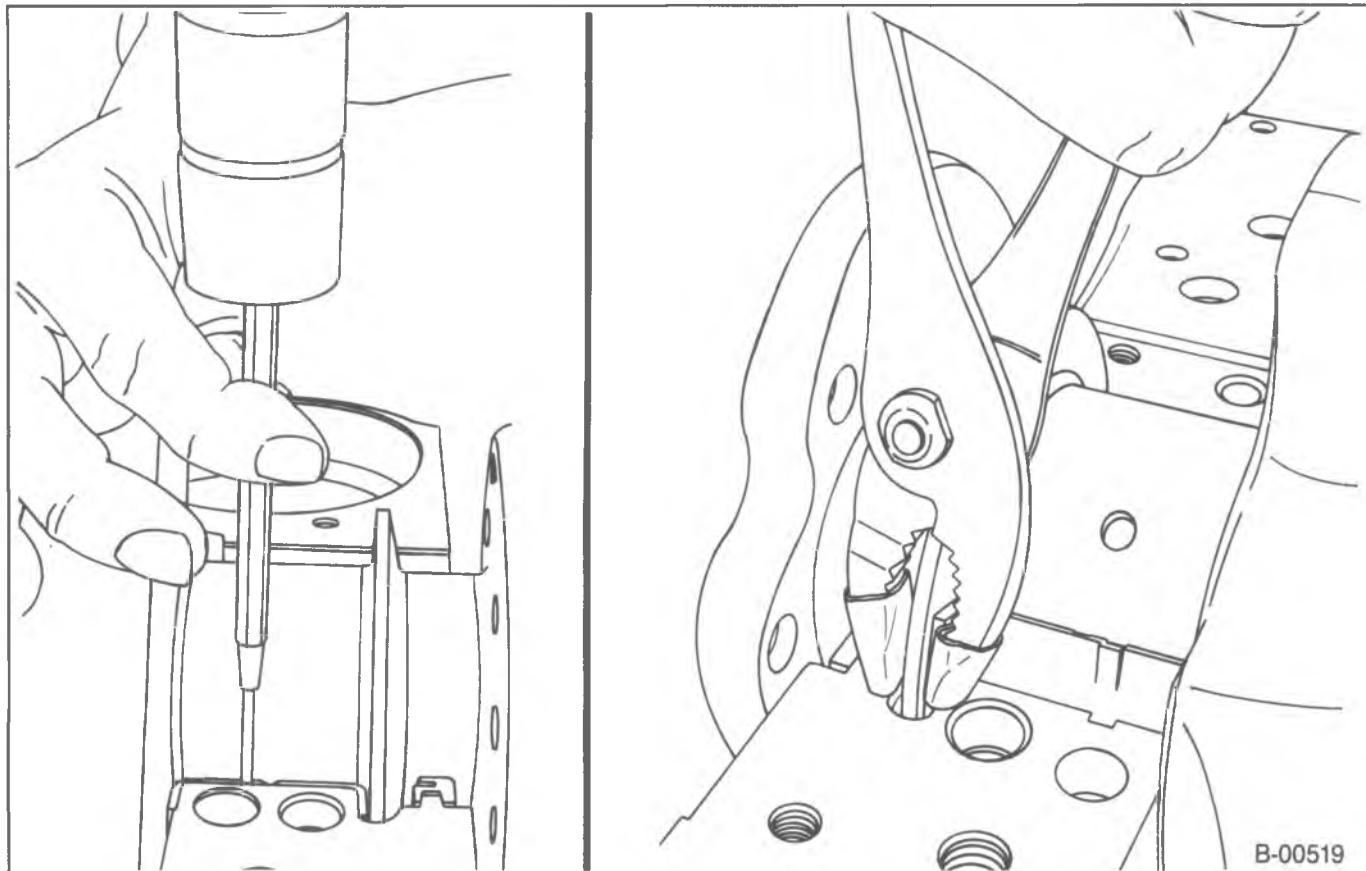

Figure 21—Removing the Upper Rear Main Bearing Insert
- Use a small brass drift and hammer. Tap on the insert, on the side opposite the bearing tang, until the insert rotates out of position (figure 21).
- Use a pair of pliers with the jaws taped to prevent damage to the crankshaft. Clamp the insert to the crankshaft flange (figure 21). Rotate the crankshaft (154) to remove the bearing insert.
4. Upper main bearing inserts (130).